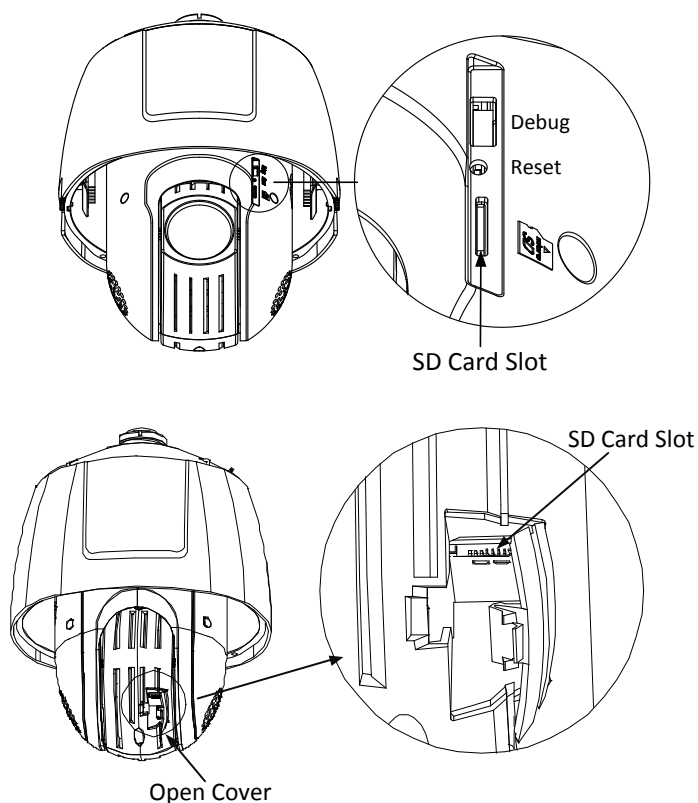
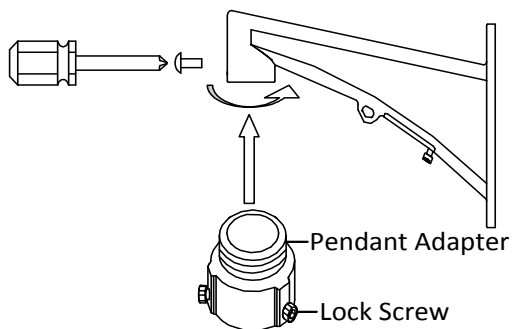

Figure 1-13 Install the SD Card
Figure 1-23 Pendant Adapter
- The bracket in Figure 1-13 is the recommended bracket for this series of speed dome, and a pendant adapter is required if any other bracket is selected. See Figure 1-23.